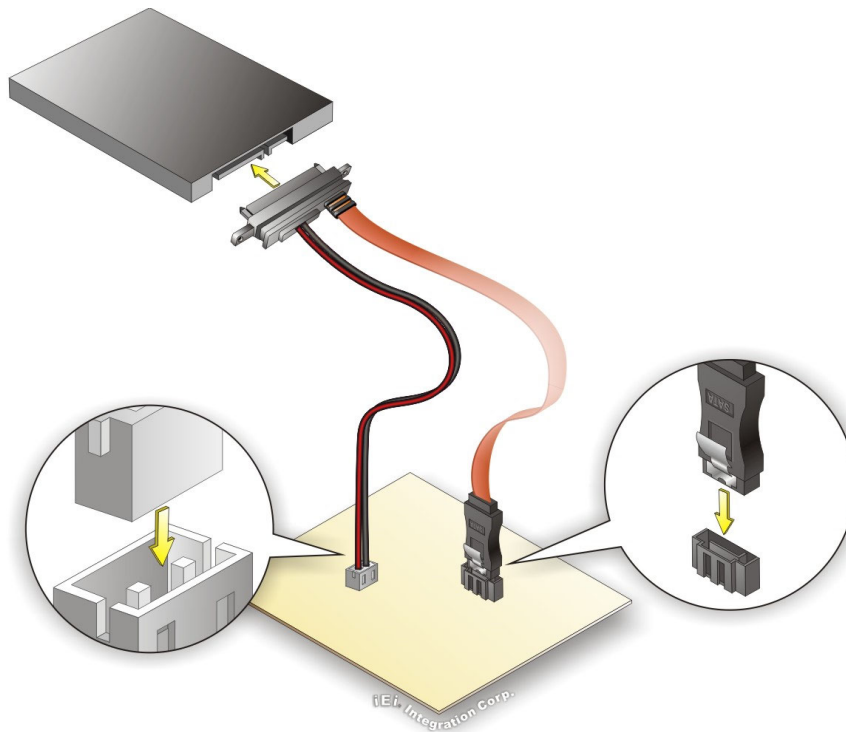

Figure 4-24: SATA Drive Cable Connection
Step 2: Insert the cable connectors. Insert the cable connectors into the on-board SATA drive connector and the SATA power connector. See **Figure 4-24**.
Step 3: Connect the cable to the SATA disk. Connect the connector on the other end of the cable to the connector at the back of the SATA drive. See **Figure 4-24**.